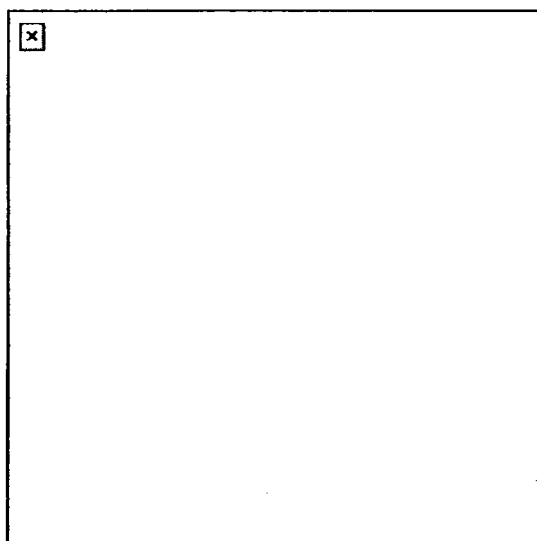

Figure 191-376-0002-1
**Conditions:** You are given a situation that will require you to prepare a sworn statement. You are given a military police (MP) notebook and blank DA Forms 2823 and 3881.
1. Complete the following blocks of DA Form 2823. Refer to Figure 191-376-0002-1.